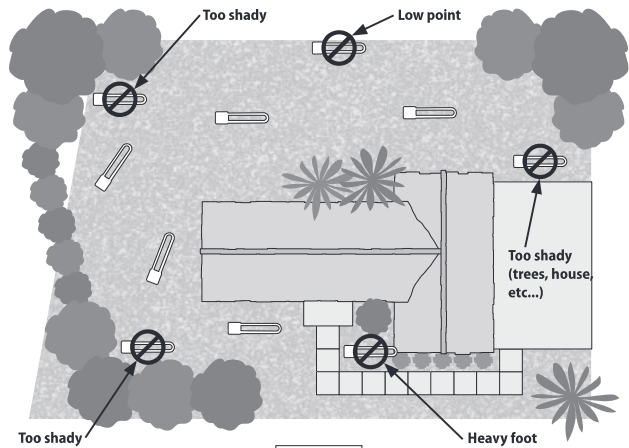

Figure 1
- 4. Choose a full sun turf zone for the sensor installation (see Figure 1 & 2).